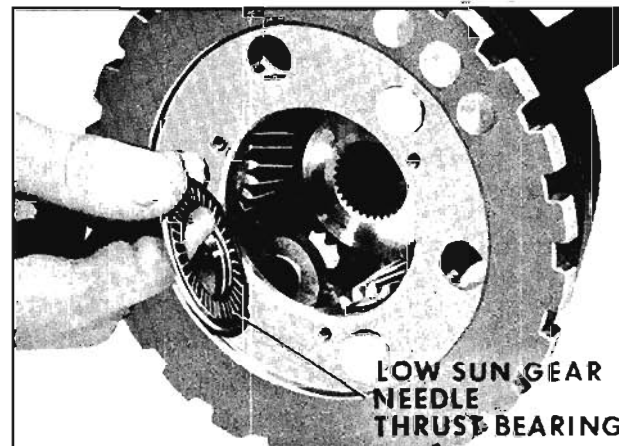

Fig. 6-387 Removing Low Sun Gear Thrust Bearing
- Remove low sun gear needle thrust bearing. (Fig. 6-387)